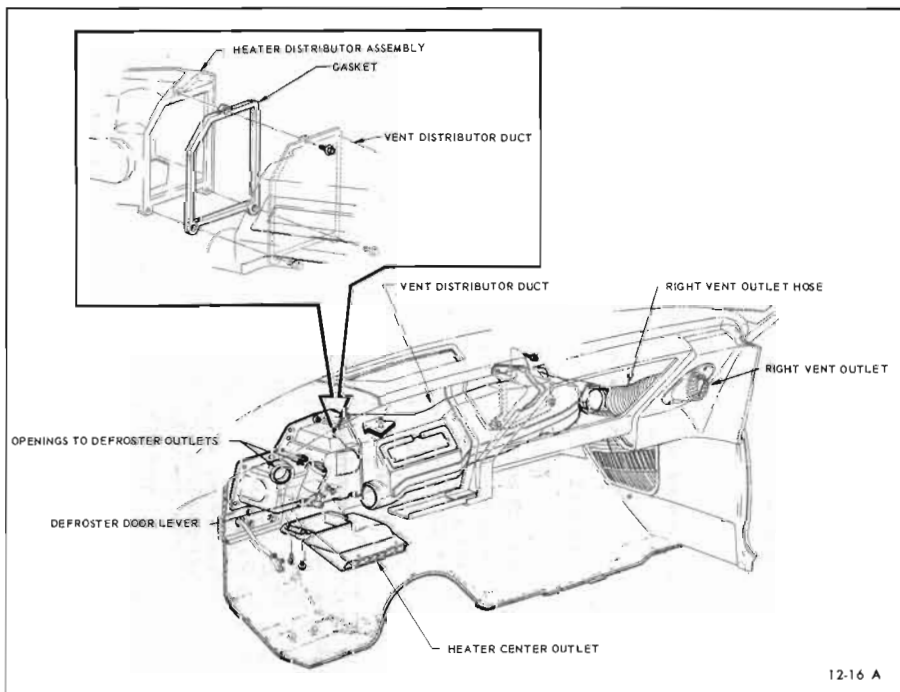

Figure 12-16—Heater Distributor Assembly, Vent Distributor Duct and Center Outlet Installation - 49000 Series
1. Remove two screws and lower heater center outlet (see Figure 12-16).
3. Disconnect defroster control cable from defroster door lever (see Figure 12-16).